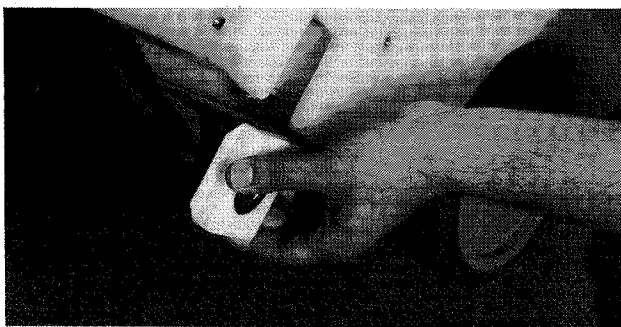

Figure 9
2. Pull the bearing block out of the housing on the side opposite the drive belt. See Figure 9.